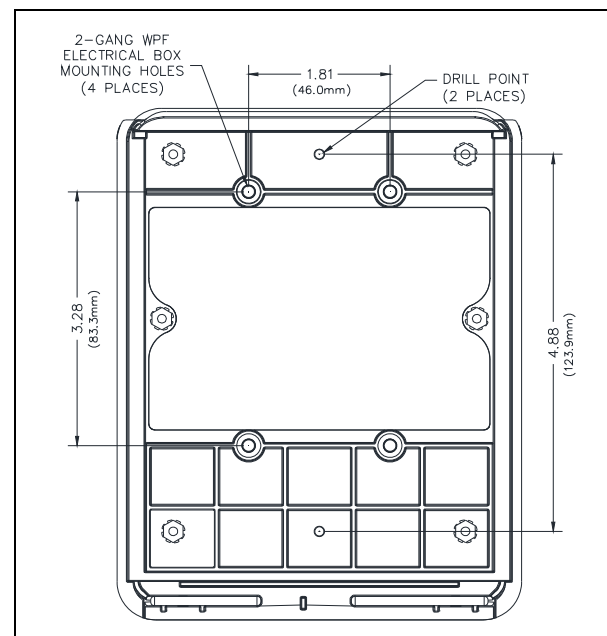

Figure 2. HUBBCOM Remote Station Back Plate
4. Assemble the mounting plate to the electrical box using the supplied #6-32 x 5/8-inch flat head screws (see Figure 2).